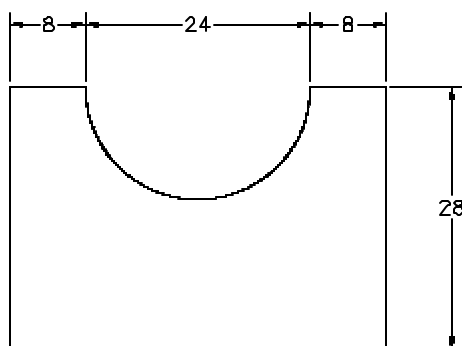

Figure 24-43 Figure showing the region
9. Draw the object shown in Figure 24-43 and then convert it into region.